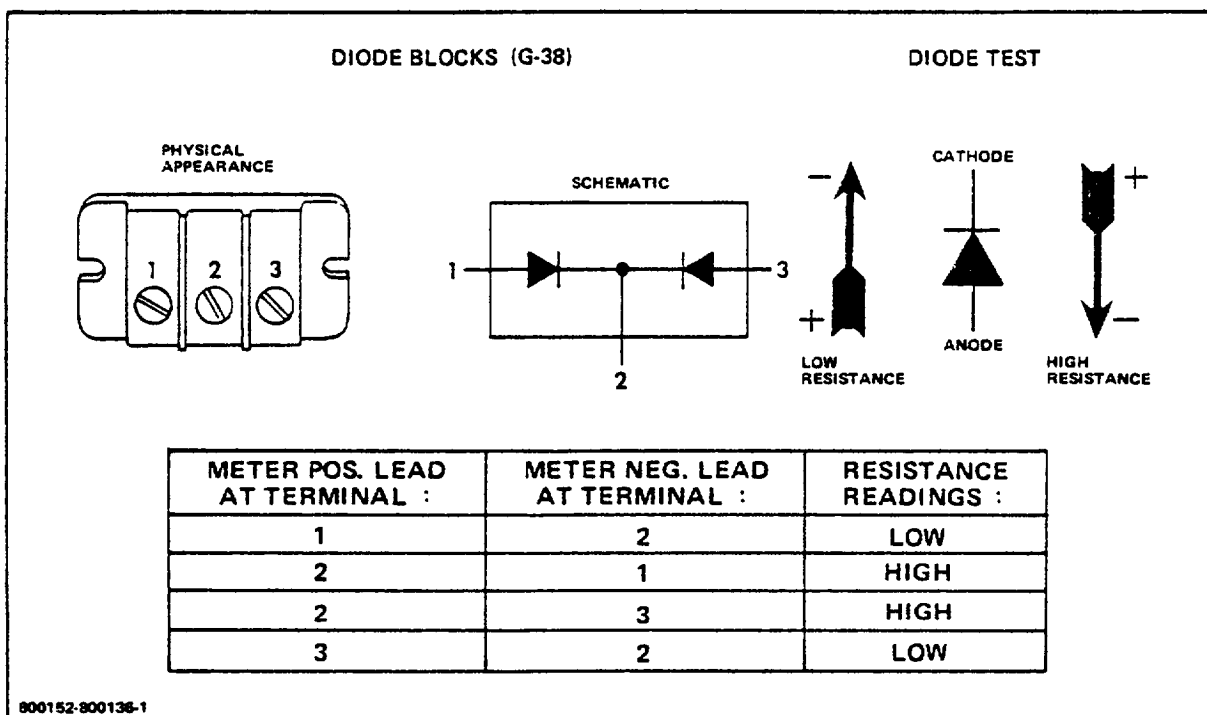

Figure 3-5. Diode Block Testing
- f. Filter (diode) Blocks (HY-6,7, and 8) The filter blocks contain two diodes (Fig 3-5). Check the resistances between the filter block terminals. Replace any block that does not give the resistance readings as specified in Figure 3-5.